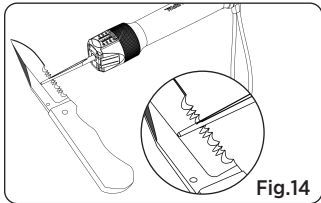

Fig.14
**SERRATIONS & GUT HOOKS SHARPENING INSTRUCTION:** (See Fig. 14)